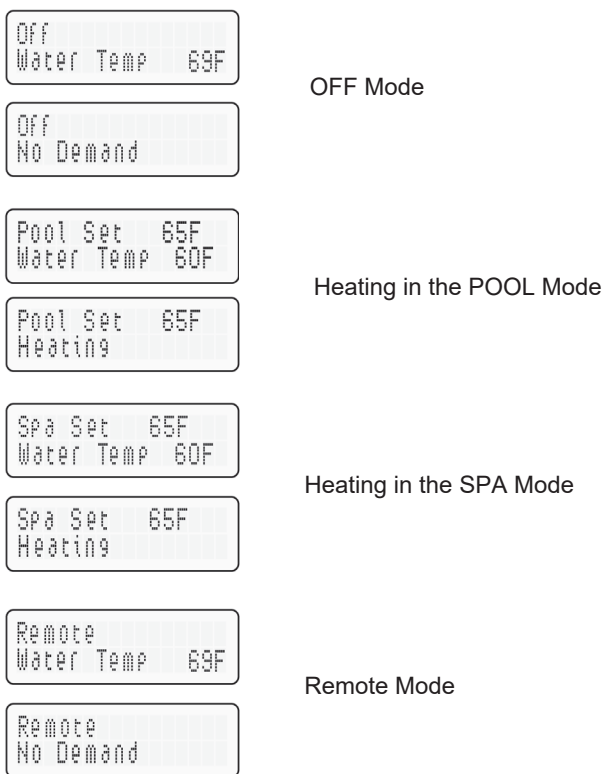

Figure 47. Remote Control Menu - Remote Operation
**⚠ CAUTION:** Before installing remote controls to the digital heaters, read the following: The digital thermostat model is remote-ready in most cases. The digital liquid crystal display (LCD) shows the actual pool temperature, operating status, and service codes. See Figure 47. The touch pad on the control panel allows you to select the desired pool or spa temperature. It also indicates when a remote system is controlling the heater by displaying Remote in the display. When connecting the heater to a remote system, identify whether it is a two- or three-wire remote system. Select the appropriate instruction listed below to properly install the remote to the heater.